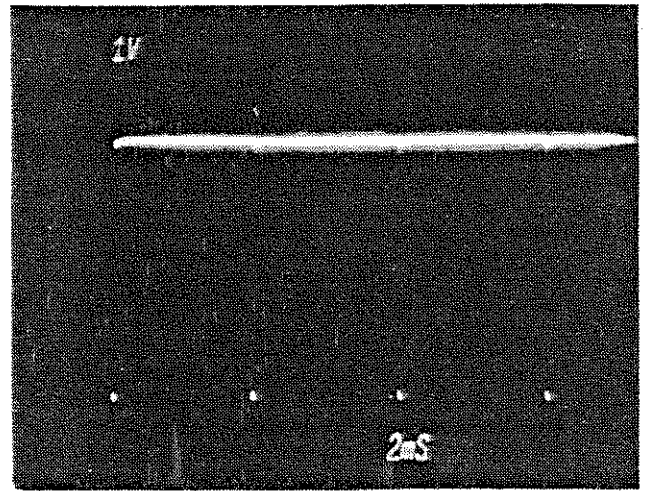

Fig 4-16 Waveform for positive polarity Z output
- j. **CHECK** that the pulse polarity on the Oscilloscope display is similar to Figure 4-16.